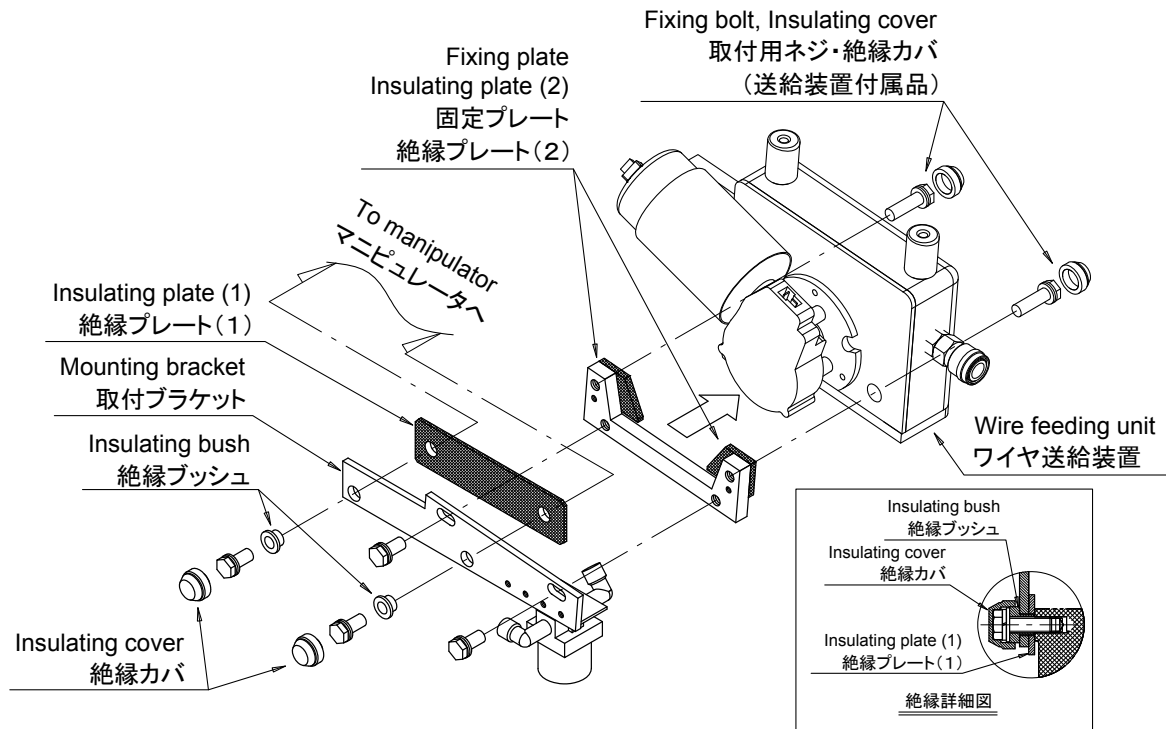

Fig. 2.4 Mounting of manipulator fixing bracket and wire feeding unit (Procedure (2) and (3))
For the configuration of parts for mounting the wire feeding unit and the fixing bracket, refer to Fig. 2.4.
- (2) Referring to Fig. 2.4, mount the fixing plate and insulating plate (2) to the wire feeding unit.
- (3) Referring to Fig. 2.4, mount the mounting bracket and insulating plate (1) to the manipulator.